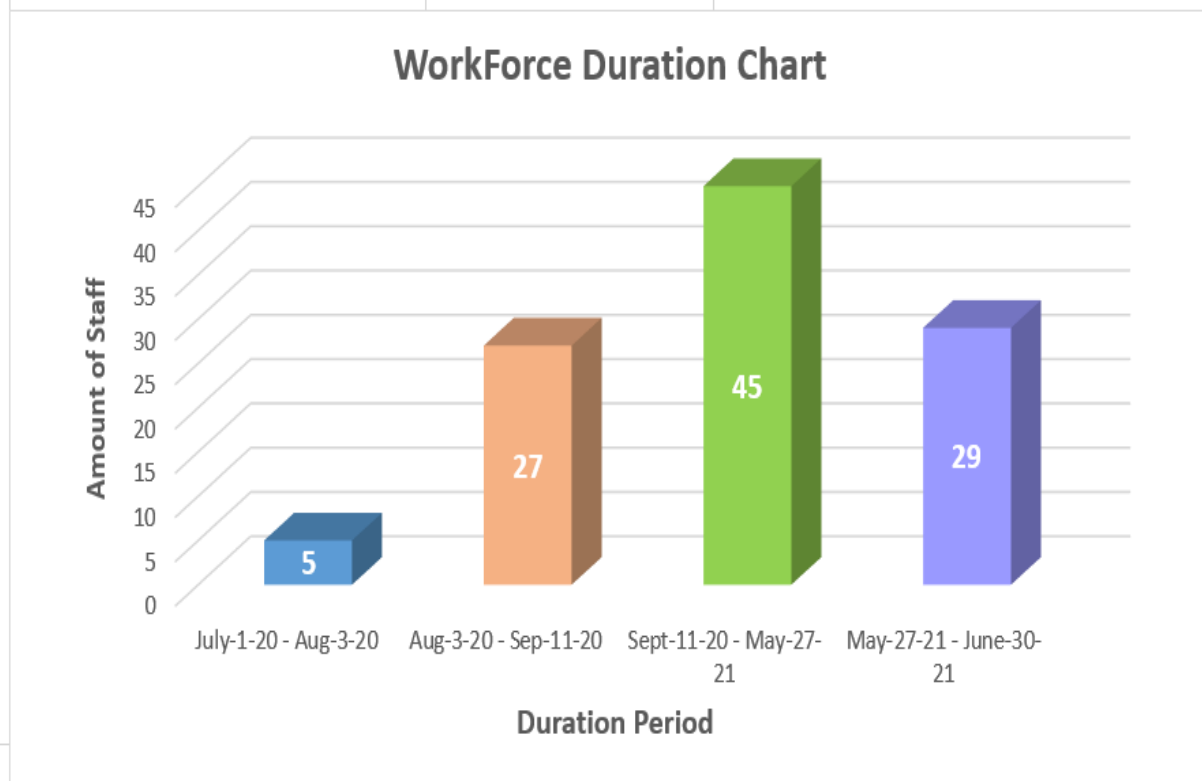

Figure 16: Resource Histogram Graph. (Compiled by Author, October 2019)
All the resources are based on an eight (8) hour work day, a five (5) day work week, which totals a forty (40) hour work week. All resources are not required to work before the project begins. In actuality, this means that specific persons will not be hired until everyone is needed at the time they are needed for the project. The resource histogram is seen below in *Figure 16*.